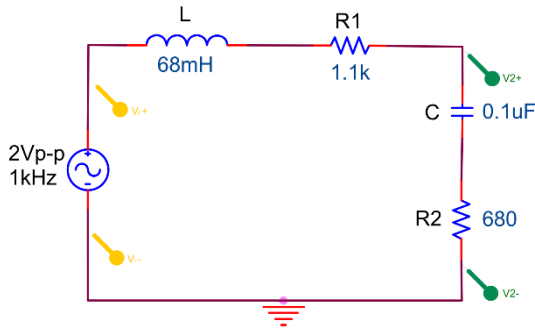

Figure 12.6
1. Construct the circuit of **Error! Reference source not found.**. Use the oscilloscope to measure the magnitude of the phasor V_2 and the voltage across the 680Ω resistor. While measuring Figure 12.6 ensure the oscilloscope is configured to measure θ_1 .